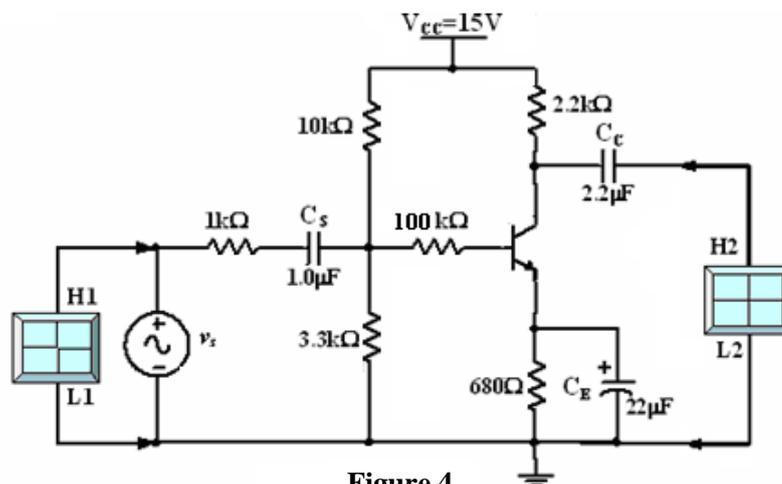

Figure 4
- 1- Construct the circuit shown in Figure 4 by using **BC107** transistor.
- 1- Connect the circuit shown in Figure 5 which is the same circuit shown in Figure 4 but we add **load resistor $R_L = 1.2k\Omega$** .